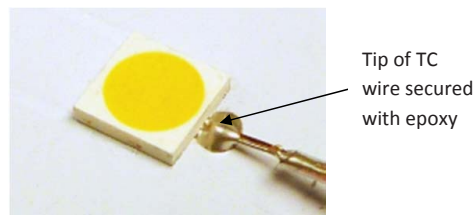

Figure 5. Photo showing actual placement of TC wire secured with thermal conductive epoxy. The thermal epoxy volume should be kept to minimum as shown
The recommended location of the sensor pad is right next to the cathode of the LUXEON emitter on the PCB, as shown in Figure 4 and Figure 5. To ensure accurate reading, the thermocouple (TC) tip must make direct contact to the copper of the PCB onto which the LUXEON emitter cathode pad is soldered, i.e. any solder mask or other masking layer must be first removed before mounting the thermocouple onto the PCB. The tip of the TC wire where two dissimilar metals are welded should be placed as close as possible to the LUXEON emitter package on the exposed cathode copper layer as shown in Figure 4. The thermal resistance  $R\theta_{j-s}$  between the sensor pad and the LUXEON emitter junction was experimentally determined on FR4 PCBs for the two different designs (see Table 1). The junction temperature can then be calculated as follows: